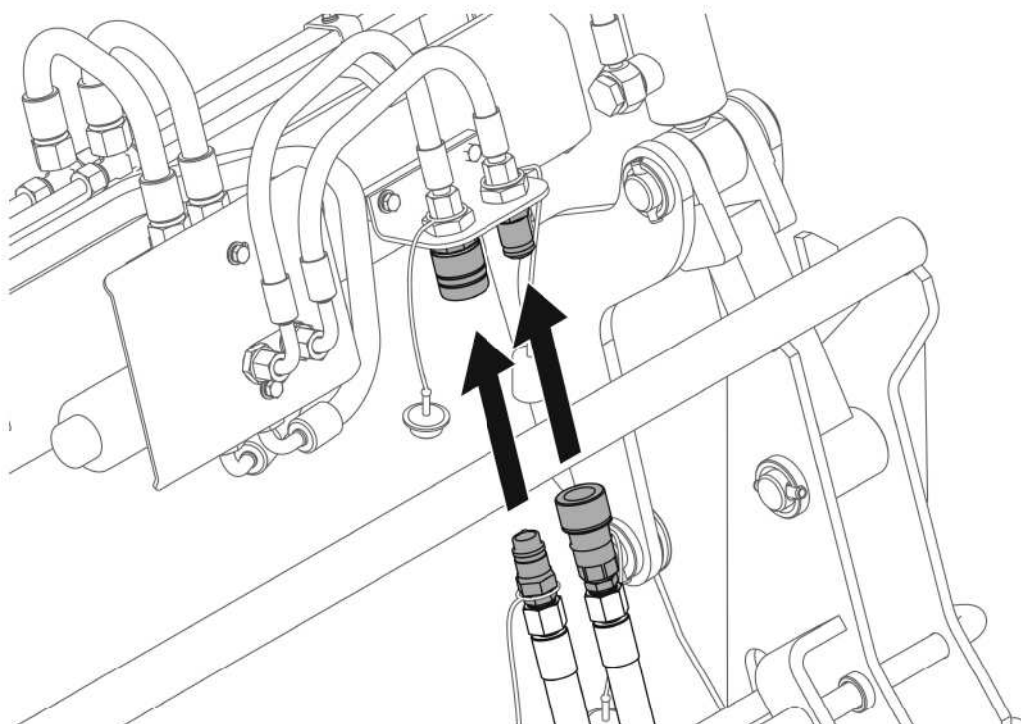

FIG. 4.27A CONNECTING THE IMPLEMENT HYDRAULIC SYSTEM (option)
- with the aid of quick couplers connect implement (FIG. 4.27A) to loader hydraulic system (option);